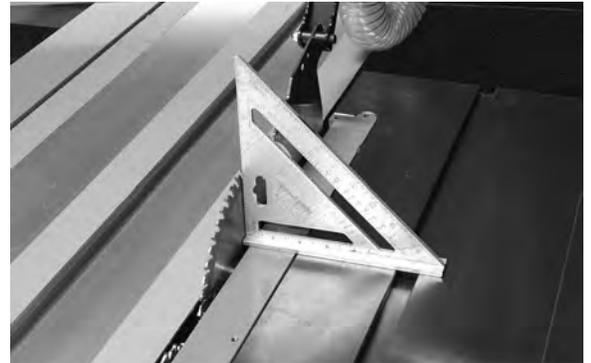

FIGURE 59
2. Place a square up against the blade as shown in Fig.59. Verify and make sure the blade is set at a 90° angle. If not, an adjustment is needed.